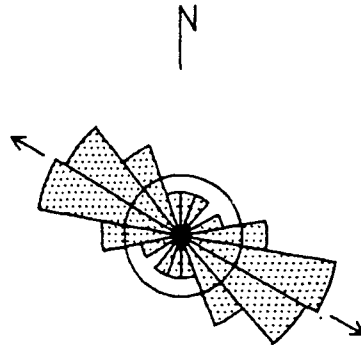
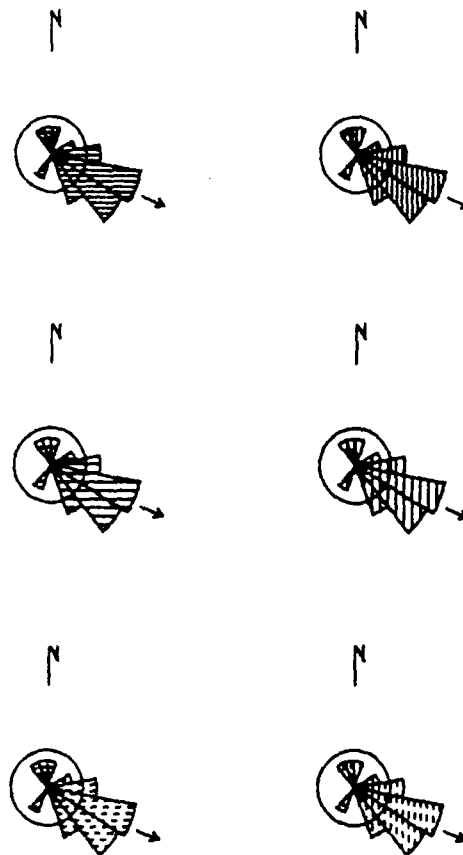

Figure 1. Rose diagram outputs of SAMPLE.DAT (i) as unidirectional data (top) and (ii) as bidirectional data (bottom).
Figure 2. Sample outputs showing some of available shade patterns.
Scientists may be faced with the analysis of 2-dimensional directional data and their graphic representation. Usually, these types of data are represented by Rose diagrams. ROSE.C, a program for the PC, written in “C” language, is intended to meet the need of the general user in preparing high-quality outputs of Rose diagrams, without having to depend on expensive software. Some programs which use more sophisticated output devices such as plotters, or for use with larger computers are available (Parks, 1974; Charlesworth and others, 1989). ROSE.C, however, is meant for use on 24-pin dot-matrix printers. The diagrams produced by this program are scalable, and this facilitates their direct use in publications (see Figs. 1 and 2).
When the program is run there is an initial interactive session in which the user will be prompted to provide answers to a number of queries. These queries are listed next along with explanations thereof. The output of Figure 1 was produced by a single run of this program, and is used here to
- (x) *Printing to be in draft mode or final mode (D/F)*: response must be "d" or "f". If "f" is pressed, each line will be printed twice so that the lines and dots are darker and clearer. (To produce the output in Fig. 1, "f" (final mode) was selected.)
- The diagrams in Figure 2 also were produced by processing SAMPLE.DAT. They show the other ready-made shade patterns available. Note also that the diagrams are smaller than in Figure 1, and were obtained by selecting magnification 5 which gives a
The results of the calculations are printed out along with the name of the data file and the magnification used at the beginning before printing the Rose diagram. Figure 1 gives a sample output for unidirectional and bidirectional data sets.
is one option which allows the user a selection of `stepx` and `stepy` for a dot pattern. The algorithm is rather long, mainly because of the large number of situations possible. Figure 2 illustrates some of the shading options.
The image also includes a North indicator and an arrow mark to indicate the resultant vector. These are done by the functions `North()` and `Arrow()` (see Figs 1 and 2).